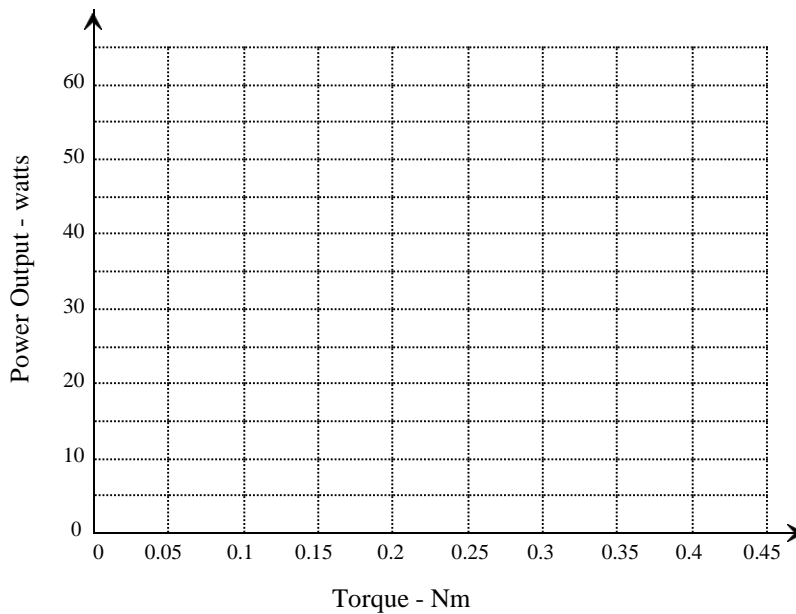

Figure 4
- On the axes shown in figure 4 draw the graph of power output versus torque for the motor tested.
- Based on your observations and the graph in figure 4, what effect does increased load have on the output power of an induction motor?